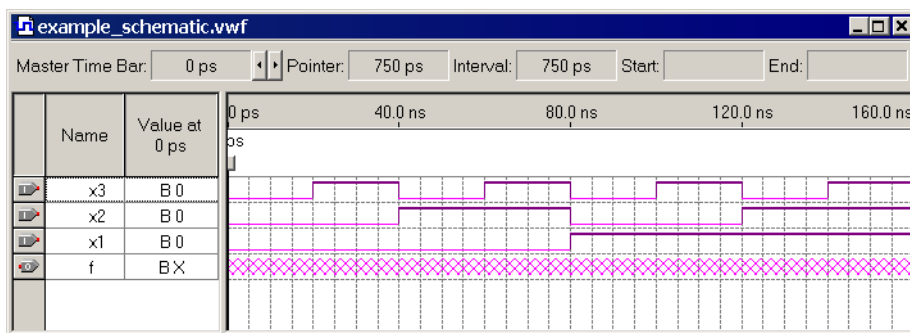

Figure B.23. The complete test vectors.
To simulate the behavior of a large circuit, it is necessary to apply a sufficient number of input valuations and observe the expected values of the outputs. The number of possible input valuations may be huge, so it is necessary to choose a relatively small (but representative) sample of these input valuations. (The topic of circuit testing is explored in Chapter 11.) Our circuit is very small, so it can be simulated fully by applying all eight possible valuations of inputs x_1 , x_2 , and x_3 . Let us apply a new valuation every 20 ns. To start, all inputs are zero. At the 20-ns point we want x_3 to go to 1. Click on x_3 ; this highlights the signal and activates the vertical toolbar that allows us to shape the selected waveform. The toolbar provides options such as setting the signal to 0, 1, unknown (X), high impedance (Z), don't care (DC), and inverting its existing value (INV). Observe that the output f is displayed as having an unknown value at this time, which is indicated by a hashed pattern. A specific time interval is selected by pressing the mouse on a waveform at the start of the interval and dragging it to its end; the selected interval is highlighted. Select the interval from 20 to 40 ns for x_3 and set the signal to 1. Similarly, set x_3 to 1 from 60 to 80 ns, 100 to 120 ns, and 140 to 160 ns. Next, set x_2 to 1 from 40 to 80 ns, and from 120 to 160 ns. Finally, set x_1 to 1 from 80 to 160 ns. Complete the remaining assignments to obtain the image in Figure B.23 and save the file.
Functional simulation of the Verilog code is done in exactly the same way as the simulation described earlier for the design created with schematic capture. Create a new Waveform Editor file and select **File | Save As** to save the file with the name *example_verilog.vwf*. Following the procedure given in section B.3.3, import the nodes in the project into the Waveform Editor. Draw the waveforms for inputs x_1 , x_2 , and x_3 shown in Figure B.23. It is also possible to open the previously drawn waveform file *example_schematic.vwf* and then “copy and paste” the waveforms for x_1 , x_2 , and x_3 . The procedure for copying waveforms is described in **Help**; it follows the standard Windows procedure for copying and pasting. We should also note that since the contents of the two files are identical, we can simply make a copy of the *example_schematic.vwf* file and save it under the name *example_verilog.vwf*.